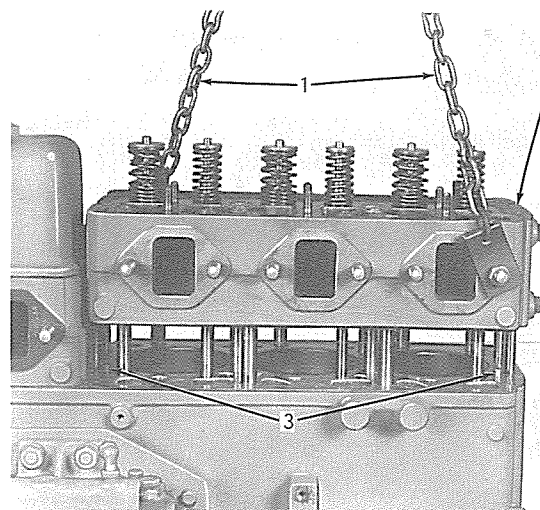

Fig. 9 — Removing Cylinder Head From Engine (T-27629)
12. Remove cylinder head stud nuts and using a sling similar to the one shown in Fig. 9, remove cylinder head.